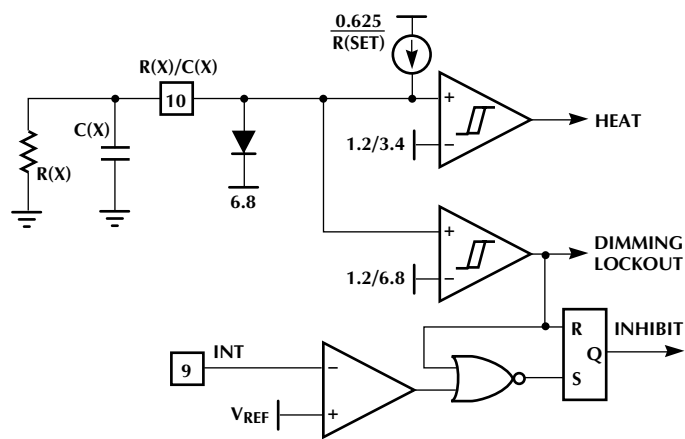

Figure 7. Lamp Preheat and Interrupt Timers
The circuit in Figure 7 controls the lamp starting scenarios: Filament preheat and Lamp Out interrupt. C(X) is charged with a current of  $I_{R(SET)}/4$  and discharged through R(X). The voltage at C(X) is initialized to 0.7V ( $V_{BE}$ ) at power up. The time for C(X) to rise to 3.4V is the filament preheat time. During that time, the oscillator charging current ( $I_{CHG}$ ) is  $2.5/R(SET)$ . This will produce a high frequency for filament preheat, but will not produce sufficient voltage to ignite the lamp.